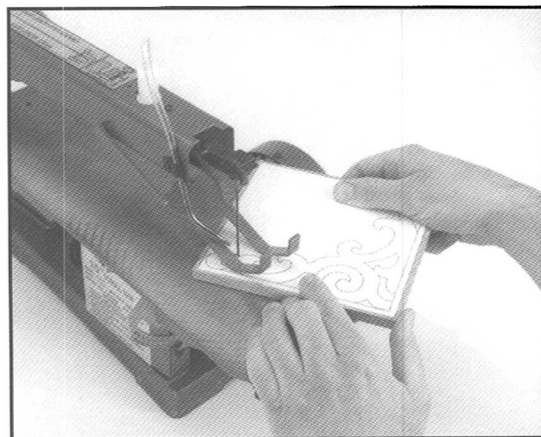

Figure 4
3. Maintaining a slow, even pressure, feed the workpiece into the blade. Approaching a tight radius, slow down your feed rate, but don't stop. The blade must do the cutting; don't force the piece into the blade faster than the machine can handle, especially on a curve. This will cause the blade to twist, which increases the risk of breakage. Keep the workpiece flat against the table, and keep an eye on the blade to make sure it doesn't twist. See Figure 4.